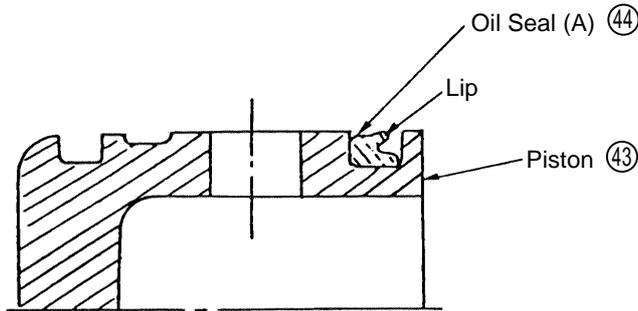

Fig. 13
B. Mounting of Oil Seal (A) ④④:
As illustrated in Fig. 13, the lip of Oil Seal (A) ④④ must be facing the rear portion side of the Piston ④③.